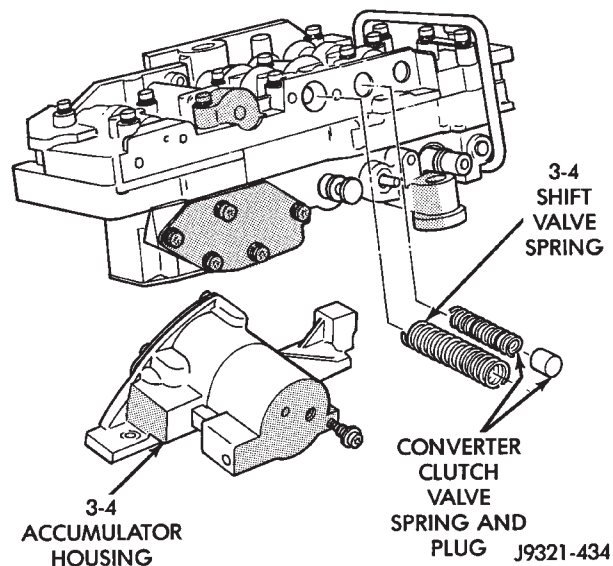

Fig. 60 Accumulator Housing, Valve Springs And Plug
(26) Remove left-side screw and remove 3-4 accumulator housing from valve body (Fig. 60).